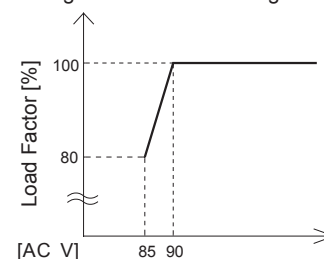

Fig.3.2 Derating curve depending on input voltage
■Input voltage derating curve is shown in Fig.3.2.